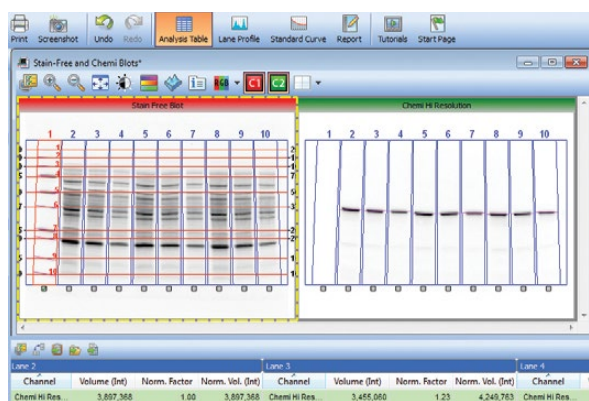

Fig. 9. Analysis table with the calculated normalization factor and normalized volumes.
- View the normalized volumes by selecting **Analysis Table** from the main toolbar (Figure 9). All calculations will be performed by the software, including the normalization factor and normalized volumes. The chemiluminescent blot channel intensity values are now adjusted for variation in the protein loading between different lanes. This will allow accurate comparisons of target protein intensities across all lanes of a gel